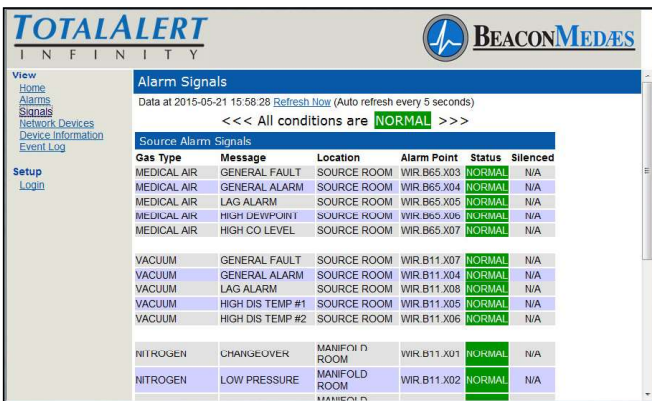

Figure 187: Alarm Signals Page
1. Click Signals to view all local signals monitored by this alarm panel (Figure 187).